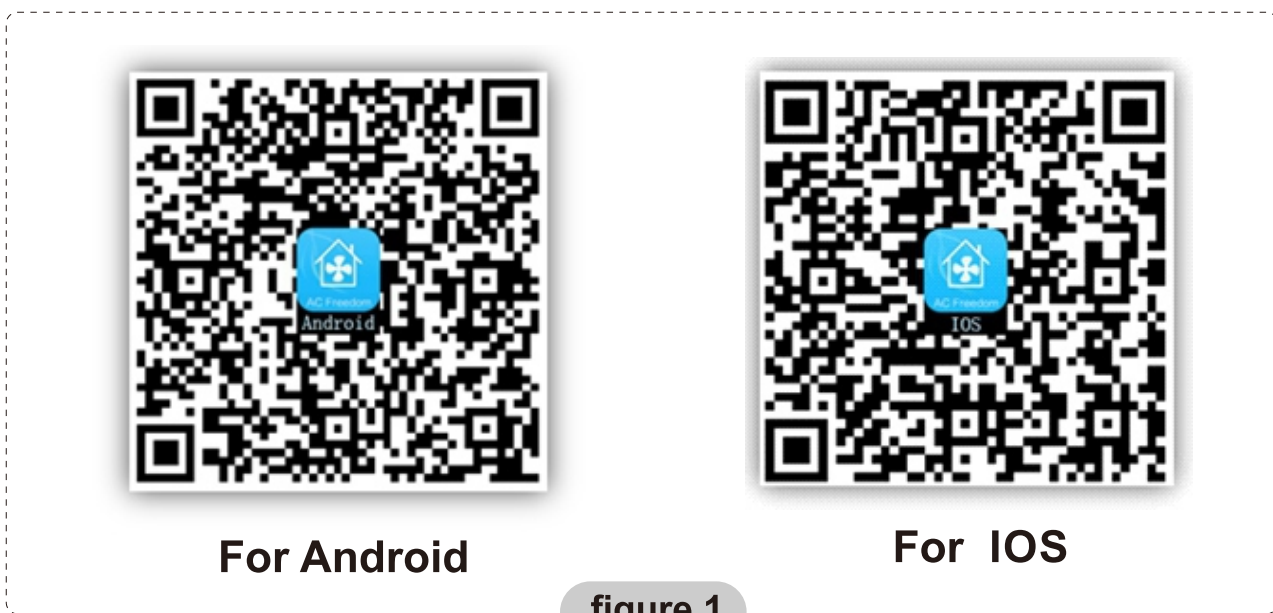

figure 1
2. You may also use your mobile device (Android 4.1 and iOS 6.0 or above only) to scan the “QR code” (see Fig.1, which will automatically direct you to the appropriate location for you to download and install the APP.